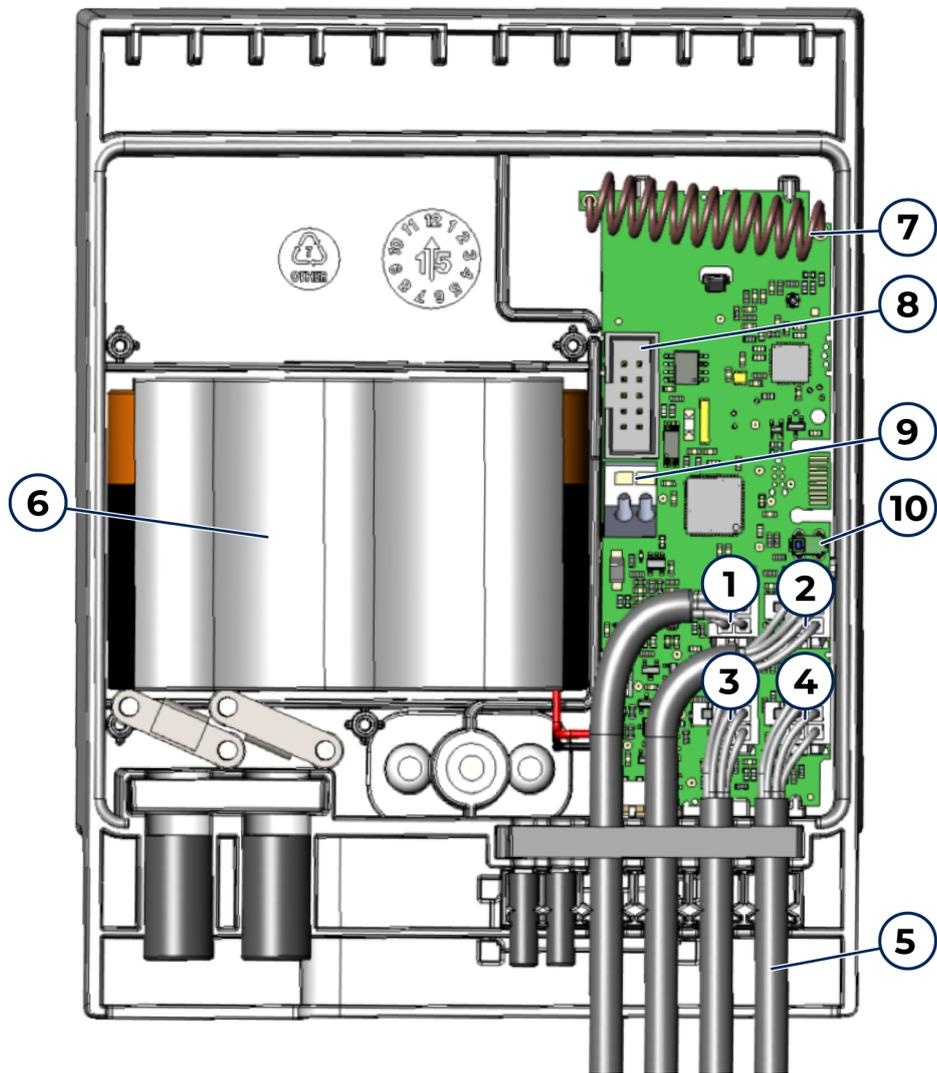

Figure 3: Installing cables to the meter unit EVH-RB
2. Install the cables in the order shown in Figure 3.